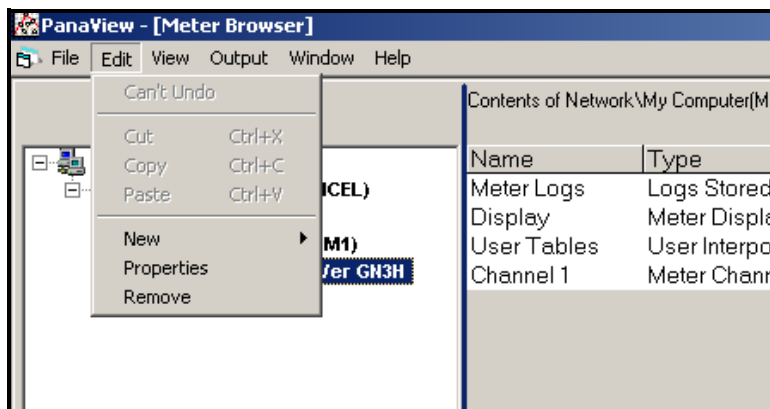

Figure 50: The Edit Menu
3. With the desired meter highlighted, open the “*Edit*” menu as shown in Figure 50.
1. From the “*Edit*” menu shown in Figure 50 on page 64, click on the “*Properties*” option. The dialog box shown in Figure 51 appears.